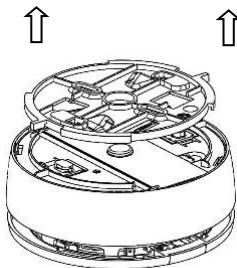

Figure 5
2. Remove the plastic mounting bracket from the detector (see *Figure 5*).
1. Remove the plastic mounting bracket from the detector (*see Figure 5*).